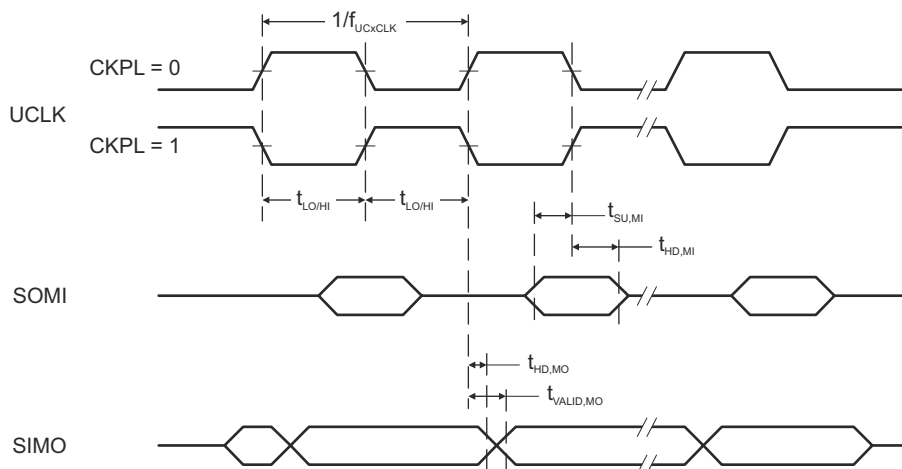
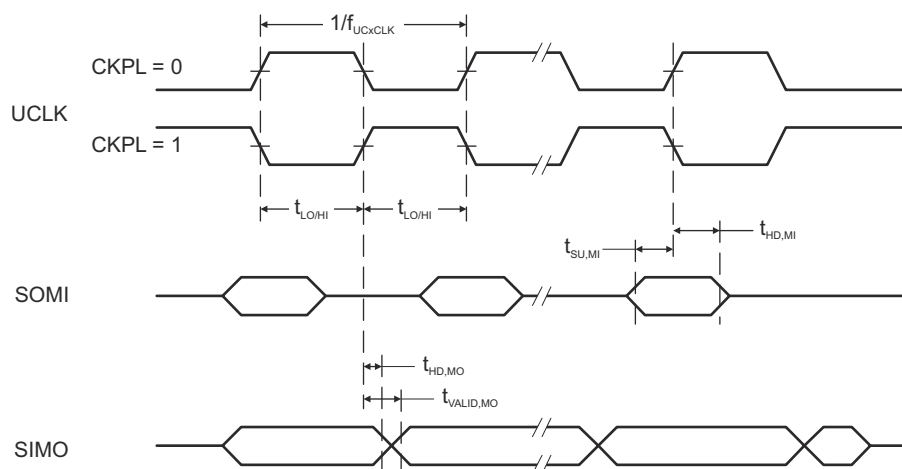

Figure 8-11. SPI Master Mode, CKPH = 0
Figure 8-12. SPI Master Mode, CKPH = 1
(see Figure 8-11 and Figure 8-12)
- (2) Specifies the time to drive the next valid data to the SIMO output after the output changing UCLK clock edge. See the timing diagrams in Figure 8-11 and Figure 8-12.
- (3) Specifies how long data on the SIMO output is valid after the output changing UCLK clock edge. Negative values indicate that the data on the SIMO output can become invalid before the output changing clock edge observed on UCLK. See the timing diagrams in Figure 8-11 and Figure 8-12.